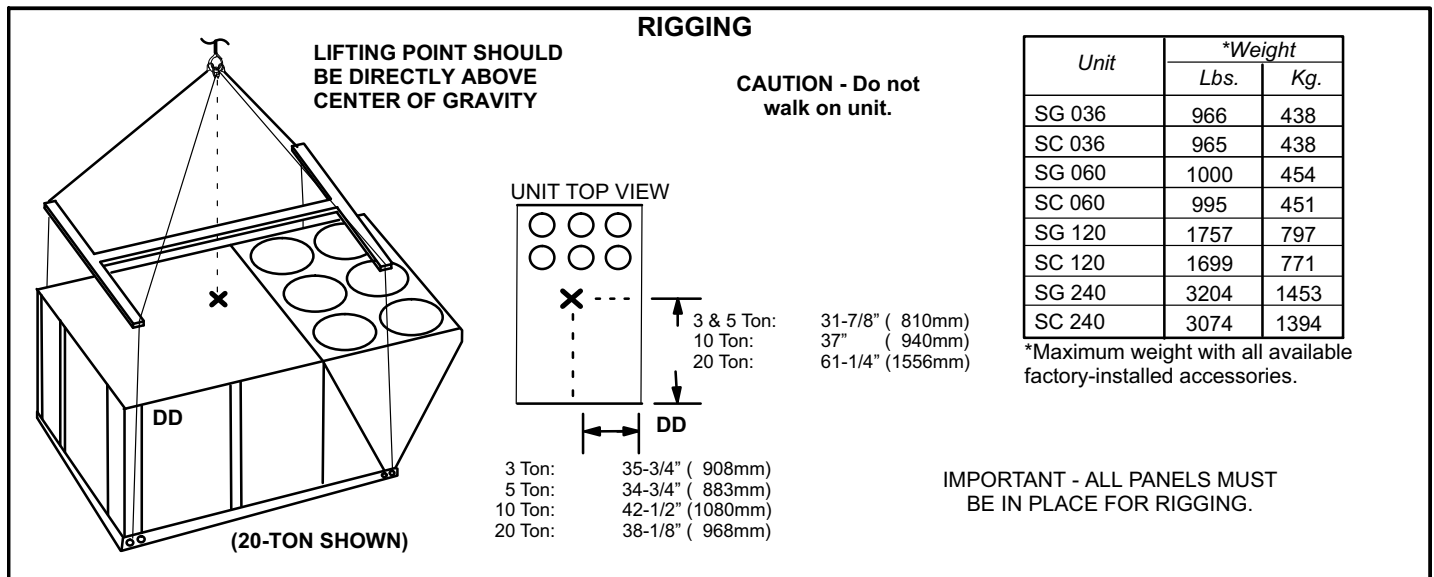

FIGURE 3
Rig unit for lifting by attaching four cables to holes in unit base rail. See figure 3.
- 5- Lifting point should be directly above center of gravity. See figure 3 for center of gravity dimensions. Corner "DD" is on the left corner when facing compressors and heat section.